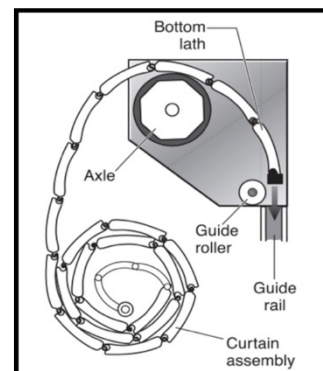

Fig 16
- 6.6 Feed the bottom lath over the top of the axle and down between the guide rails, as shown in (Fig16) taking care not to scuff the curtain assembly, proceed until half of the curtain has been fed over the axle, carefully un-roll the remaining curtain until this is balanced over the shaft, once this is done carefully feed the curtain into the guide until the curtain is reaches the floor.